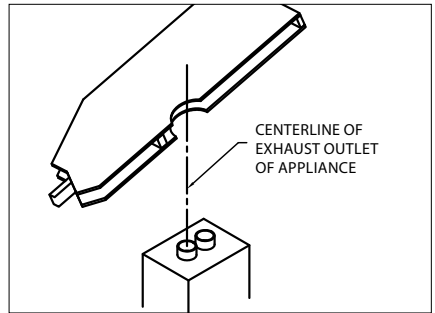

Figure 16
1. Locate penetration (**Fig.16**)